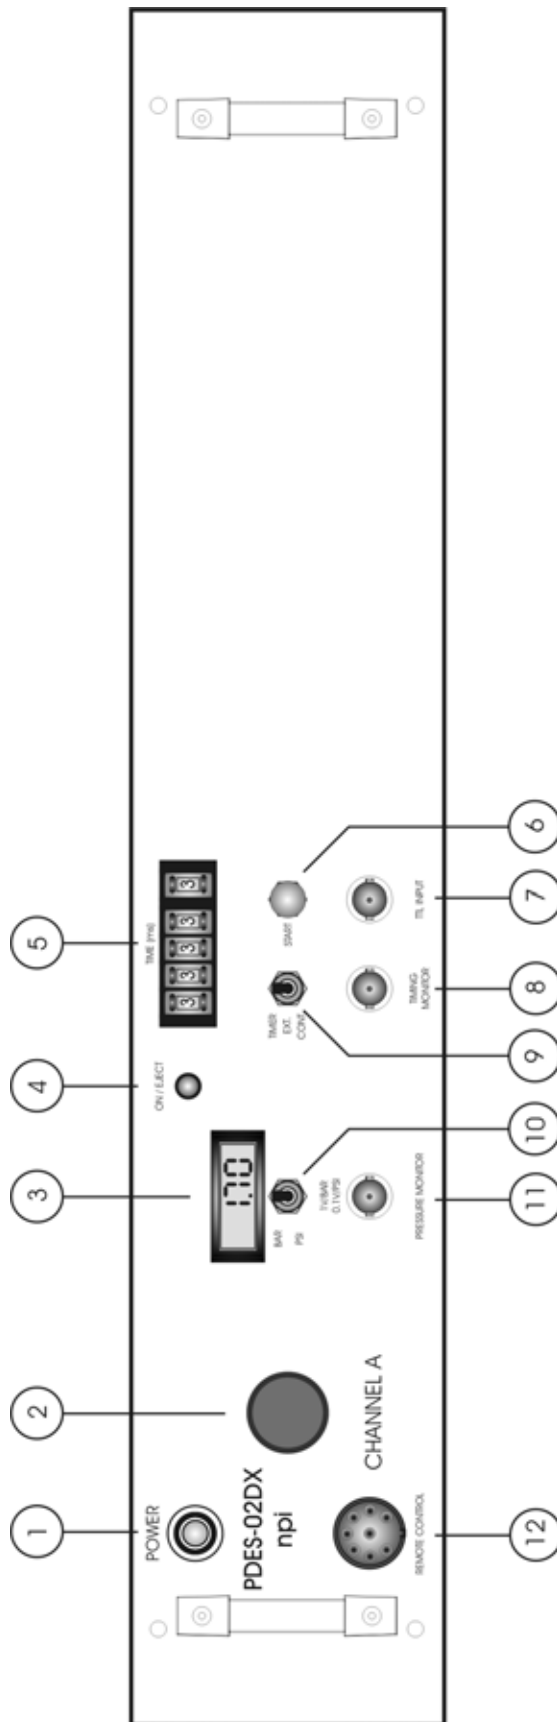

Figure 1: PDES-2DX front panel view (the numbers are related to those in the text below)
In the following description of the front panel elements, each element has a number that is related to that in Figure 1. The number is followed by the name (in uppercase letters) written on the front panel and the type of the element (in lowercase letters). Then, a short description of the element is given. Since the front panel elements are identical for each channel (with identical functions and labels) and therefore, are numbered and described only once (for channel A).
- ❑ Select the operation mode using the respective toggle switch at the front panel (see Figure 1).
- ❑ Use the START button to test the system. The START button can be used to start ejection in TIMER or EXT. mode. In TIMER mode pushing the START button starts ejection for the time set by the timer control (#5, Figure 1). In EXT. mode ejection lasts as long as the START button is pushed.